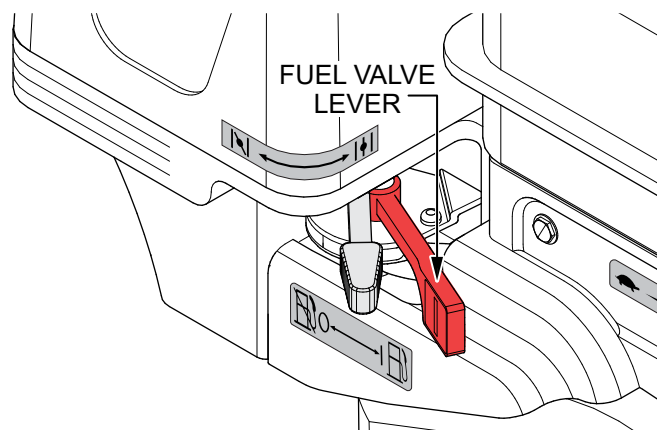

Figure 8. Engine Fuel Valve Lever (ON)
1. Place the **engine fuel valve lever** (Figure 8) in the **ON** position.